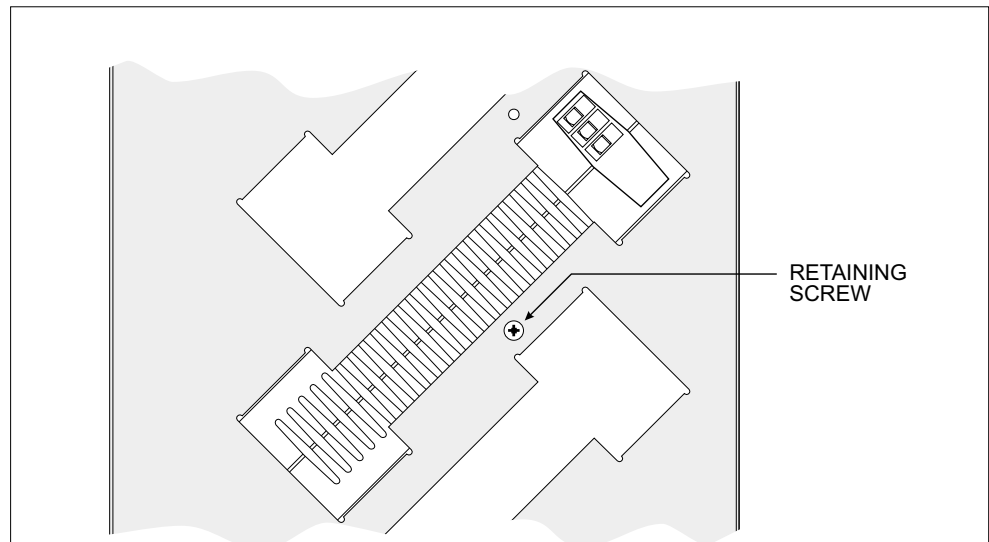

Fig.2-1: Location of retaining screw.
2. If required, secure the module to the *STACKER* by inserting a suitable retaining screw on the left-hand side (see Fig.2-1).
5. Remove the locking screw (if fitted) from the left-hand side of the module (see Fig.2-1).